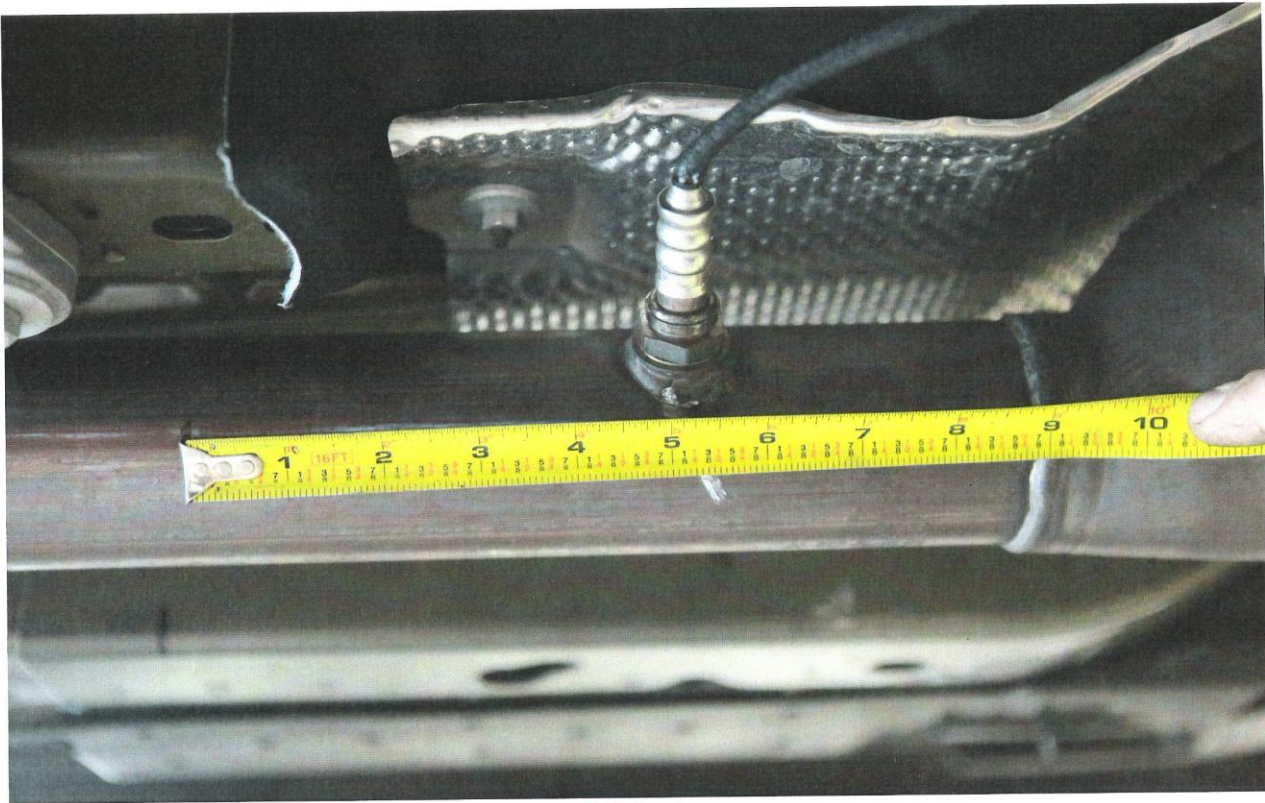

Fig. 1
- 3.) The catalytic converter pipe has to be cut from the weld on the outlet side of the cat to 9" rearward. See (Fig. 1)
- 4.) Install (2) slip to ball socket adaptors in X-Crossover with 2 1/2" of adaptor inside slip connections of the X-Crossover. Clamp in place with 3" band clamps.
- 5.) Install the X-Crossover using the (2) 2 3/4" Band clamps over the cut ends of the stock pipe. Tighten clamps and support X-Crossover in place.
**FOR TECHNICAL ASSISTANCE CALL TOLL-FREE (866) 782-3283